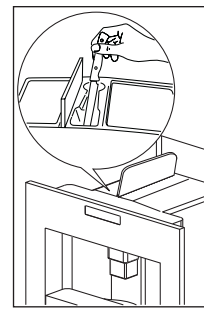

Fig. 28
- ▶ Check regularly (about once a month) that the pre-ground coffee funnel is not blocked (Fig. 28).